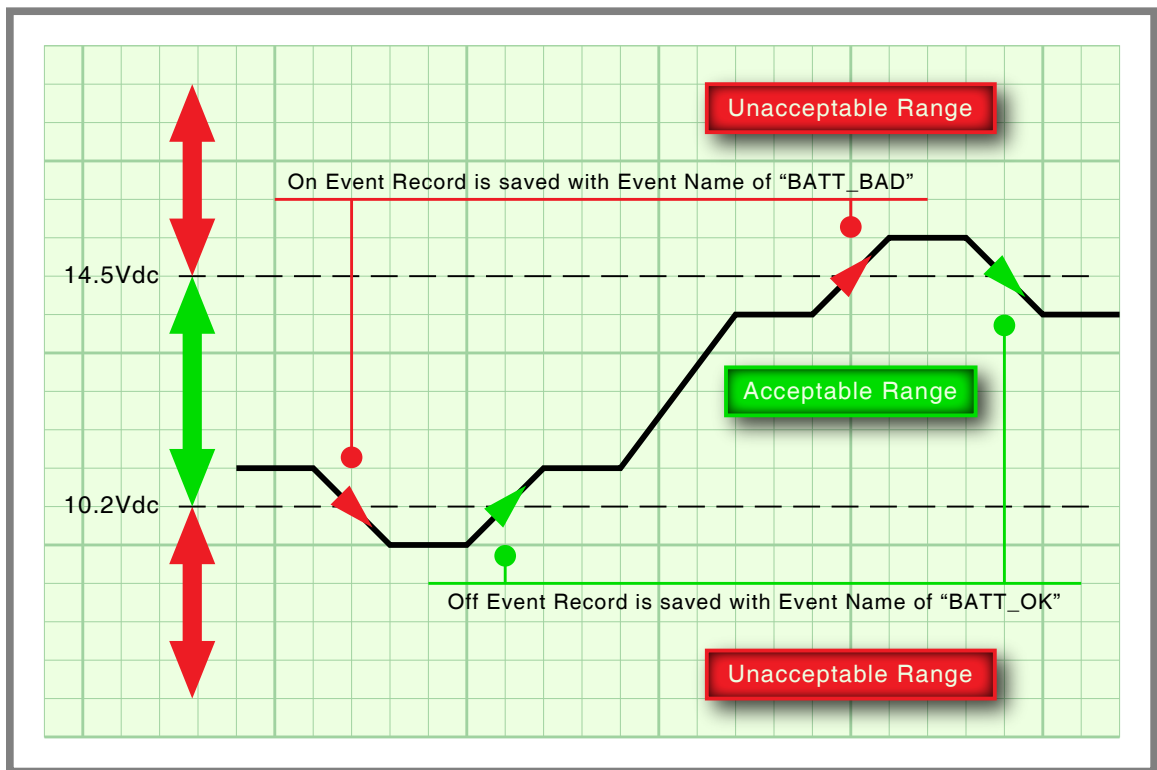

Figure 4: Analog Input Operating Ranges and Limit Values
Figure 4 on page 28 illustrates the relationship of the High and Low Limit Values to the Analog Input state. Each range defines the type of Event Record that is created by transitions of the input. The figure
**On**—The Digital Input voltage is in the range from 9 to 36 Vdc. The Analog Input level is outside the acceptable range as defined by the region between the Limit Values. Refer to Figure 4 on page 28. The